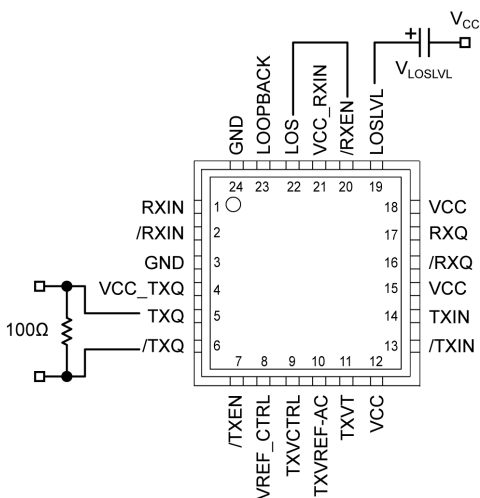

Figure 2a. Voltage Source Implementation
The SY58621L features a chatter-free Loss-of-Signal (LOS) TTL compatible output with an internal 4.75kΩ pull-up resistor. LOS circuitry monitors the input receiver signal and asserts a signal when the input signal falls below the threshold set by the programmable LOS level set pin (LOSLVL). When the amplitude of the receiver input signal falls below the threshold, LOS is asserted HIGH with a response time of ~0.2μs. LOS can be fed into /RXEN to maintain output stability by disabling the output during a Loss-of-Signal condition. Figure 2a and 2b shows the LOS connection to /RXEN. When /RXEN is HIGH, the output signal RXQ is held LOW and /RXQ is held HIGH. Typically, 2dB of LOS hysteresis is adequate to prevent the receiver output from chattering. LOS operation is optimized for data rates ≥622Mbps with an input receiver amplitude of at least 10mV (20mV_{PP}). Due to the long time constant in slower data rates below 622Mbps, the SY58621L LOS function does not guarantee chatter-free operation for low amplitude signals.
between VCC and LOSLVL sets the input amplitude. LOS detection trip-point by setting up a voltage divider between VCC and V_{REF} (an internal voltage source set at $V_{CC}-1.3V$), since there is a $2.8k\Omega$ internal resistor connected between LOSLVL and V_{REF} . The input voltage range of LOSLVL ranges from V_{CC} to V_{REF} . See the “Functional Block Diagram” section and Figures 2a and 2b, to see how R_{LOSLVL} sets up a voltage divider between VCC and V_{REF} . See the “LOS Output DC Electrical Characteristics” table and “Typical Operating Characteristics” section to see how different R_{LOSLVL} values affect LOS sensitivity.
- Connecting the input /RXEN to the LOS output as shown in Figures 2a and 2b, maintains receiver output stability under a Loss-of-Signal condition